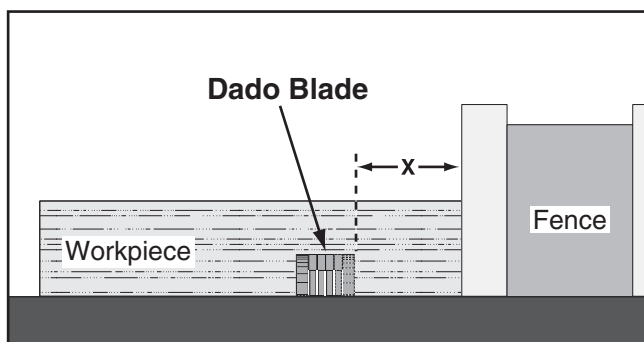

Figure 63. Example of a dado being cut with a dado blade.
2. Adjust the distance between the fence and the inside edge of the blade, as shown in **Figure 63** on **Page 42**, to dado the length of a workpiece.